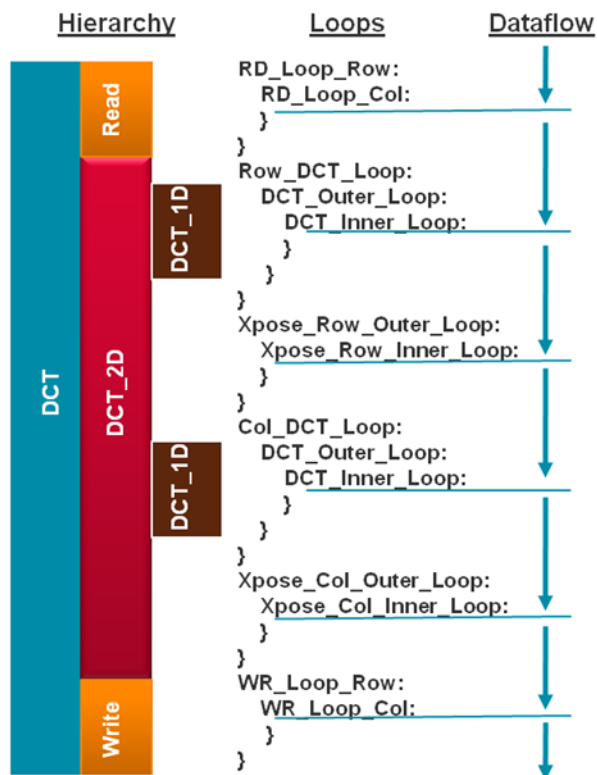

Figure 6-3: Overview of the DCT Design
This example uses a DCT function. Figure 6-3 shows an overview of this code.
- The left side of Figure 6-3 shows the code hierarchy.
- The center of Figure 6-3 shows loops inside each of the functions.
- The right side of Figure 6-3 shows the how the data is processed through the functions and loops.